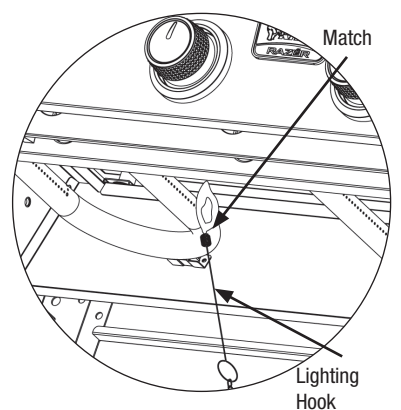

Figure 4
- If igniter does not light burner, use a lit match secured with the Lighting Hook (included with the griddle) to light burners. Access the burners from under the griddle. Position lit match near side of burner (Figures 4 and 5).